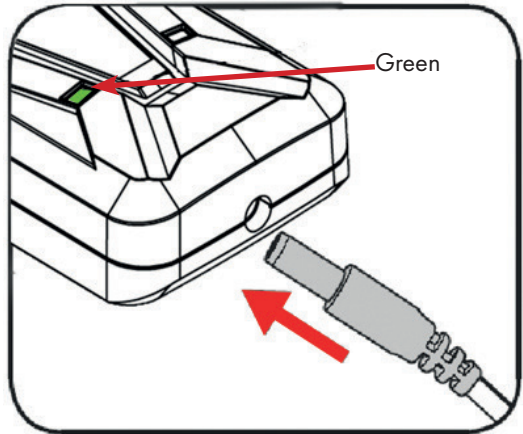

Fig.10
- Insert the charging plug into the socket on the charger. When the connection is connected, signal lights light up red (Fig. 10 next page).